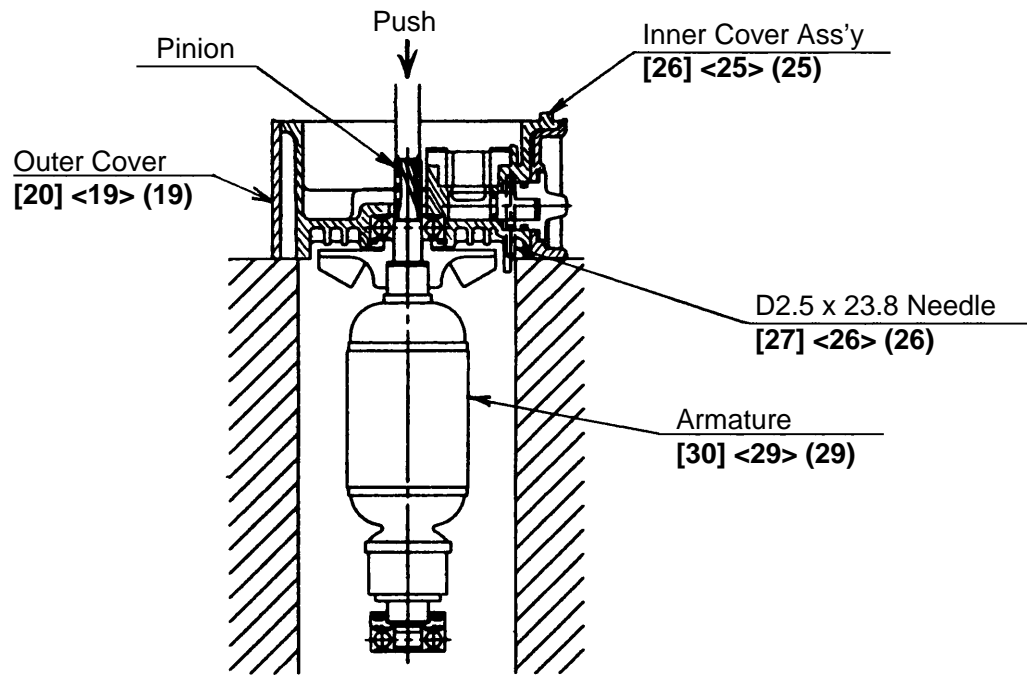

Fig. 11
(5) Removal of the armature from the inner cover ass'y
As illustrated in Fig. 11, support the Inner Cover Ass'y [26] <25> (25) with a tubular jig, and push down on the top of the pinion of the Armature [30] <29> (29). Be careful not to lose the D2.5 x 23.8 Needle [27] <26> (26) at this time.